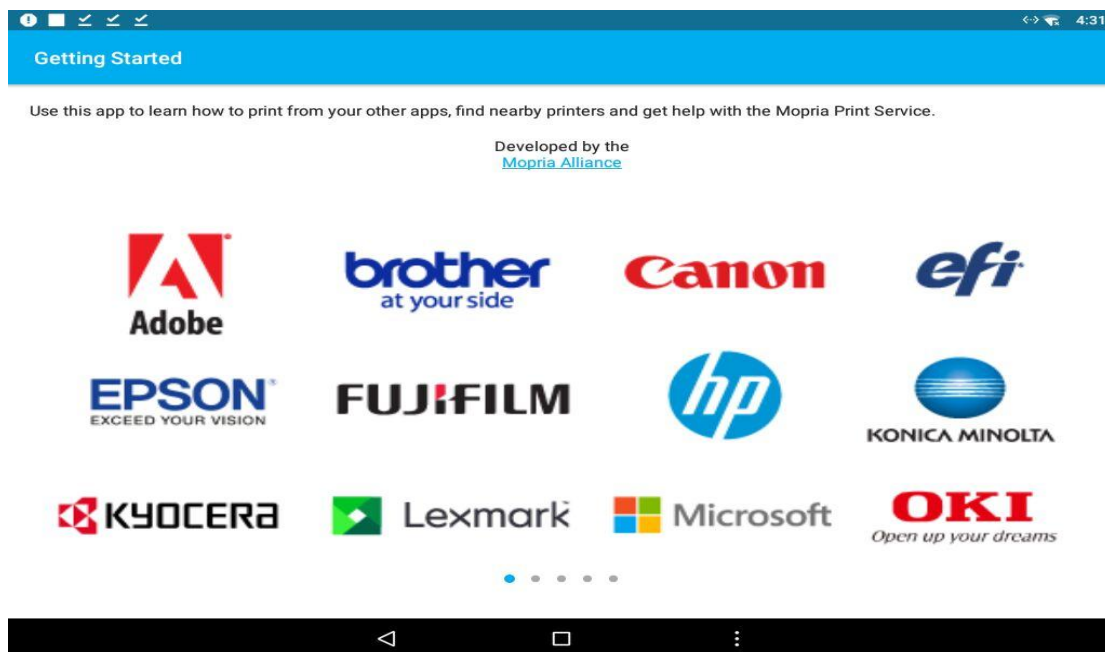
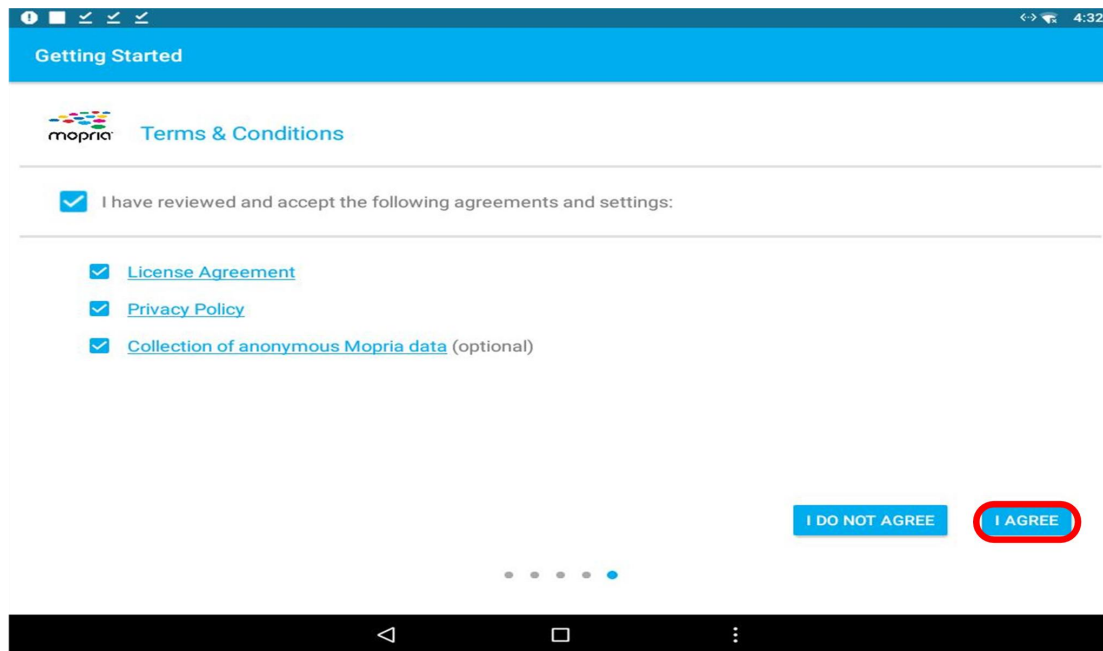

Figure 6
Figure 7
3、Open the installed printing software, as shown in Figure 6. Go to the last page and check "**Agree**" license agreement and privacy policy. Click "**AGREE**" to start using the software, as shown in Figure 7.